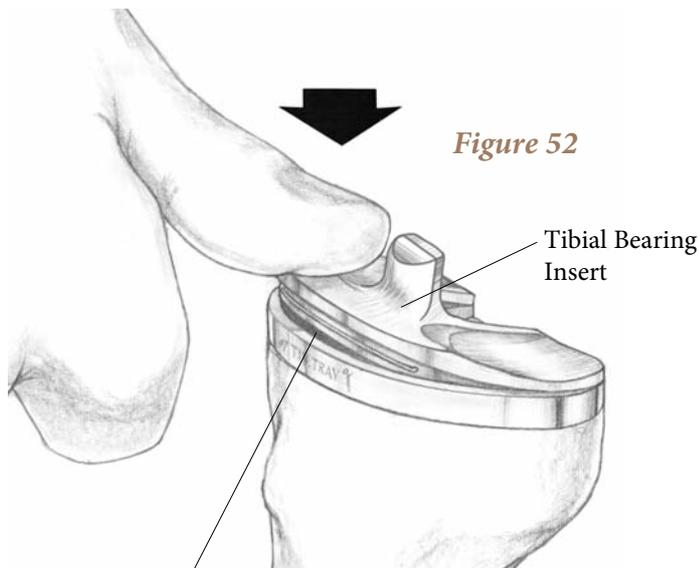

Figure 52
- ▶ Then snap the insert in place anteriorly (**Figure 52**). Hand pressure or a light tap with a mallet is required. The tibial bearing insert is fully seated once the metal retaining wire locks under the barbs on the anterior, interior surface of the tray wall.